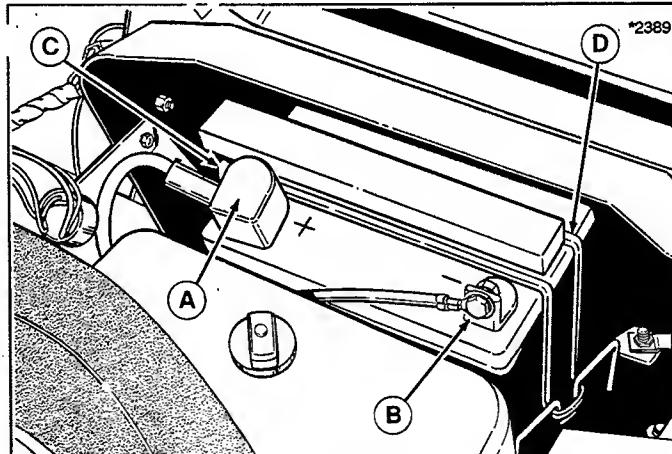

Figure 17. Battery
1. Open engine compartment to locate battery (figure 17). Disconnect the cables from the battery, negative cable first. A positive "+" sign is stamped on the battery next to the positive terminal.
2. Remove the battery holdown strap (D, figure 17). Separate the battery cap from the vent tube (C). The vent tube should remain routed through the frame. Remove the battery.